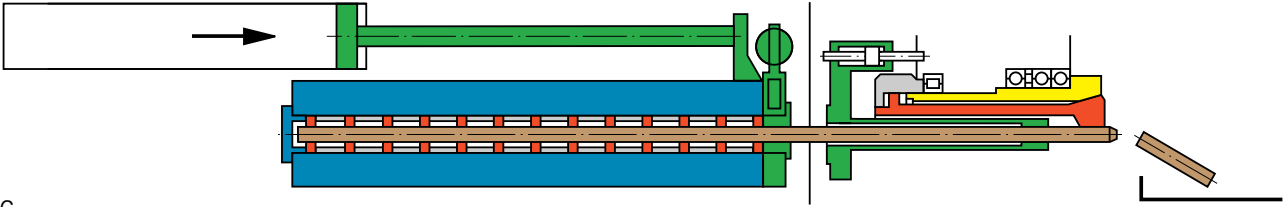

Fig. 6
When the machine signals "bar-end" the start-of bar program starts (feed finger has retracted from stock-end). The following steps are observed (see Fig.6):
11. On moving guide channel into start position, bar is pushed into the feed finger and advanced to the cut-off tool. The bar remnant is ejected into the remnant tray (see Fig.6).